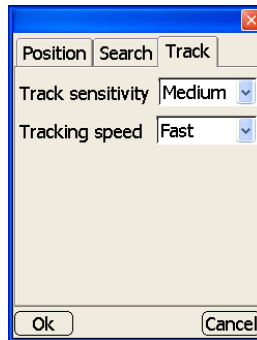

Figure 5-15. GRT-2000 Track Parameters
7. Tap the *Track* tab to adjust the tracking performance of the GRT-2000 and press **Ok** when finished. The following parameters are standard for most applications (Figure 5-15). Refer to the GRT-2000 instruction manual for details on the adjustment.